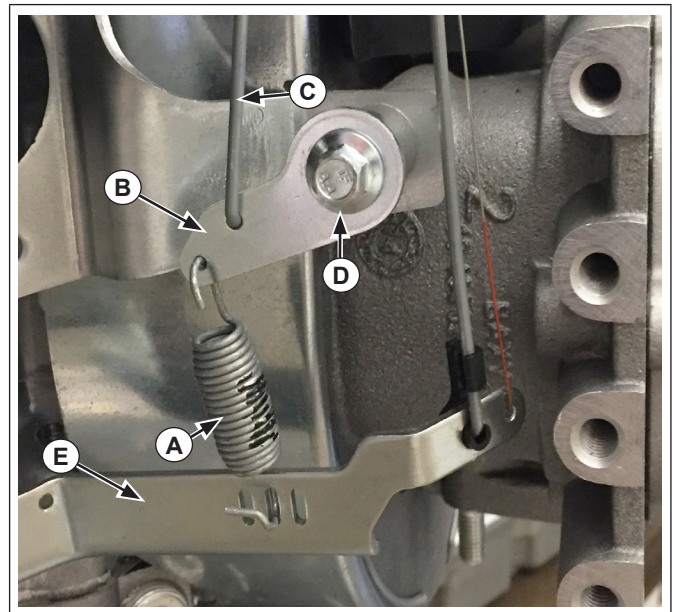
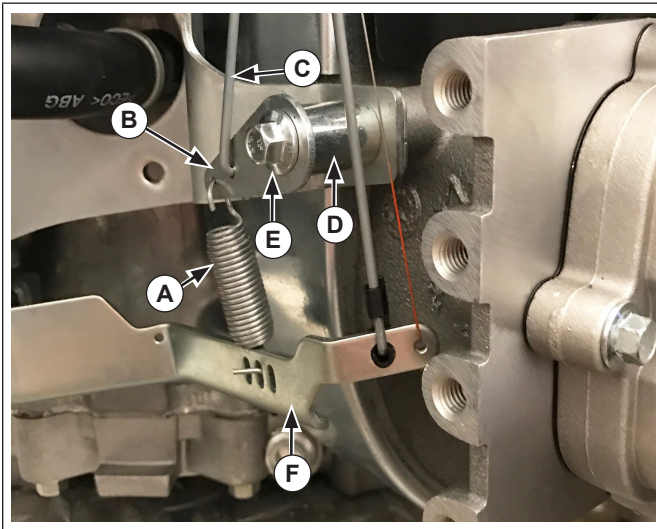

Figure 1. Original Governor Linkage Lever and Governor Spring.
Figure 2. New Governor Linkage Lever and Governor Spring.
Replacing the original (see Figure 1) black governor spring (19 089 08) with an orange governor spring 19 089 05-S and replacing the original governor linkage lever (19 090 01) with a new design (see Figure 2) governor linkage lever 19 090 05-S that moves the governor spring hole location, should correct this situation.
1. Remove the M6 screw (D) securing the governor linkage lever (B). Unhook the speed control linkage (C) and governor spring (A) from the governor linkage lever (B). Save the screw (D) and spacer behind the governor linkage lever (B); discard the governor linkage lever (B). Remove the governor spring (A) from the governor lever (E); discard the governor spring (A). See Figure 1.
- Hook the speed control linkage (C) and the new governor spring (A) into the new governor linkage lever (B). See Figure 2.
- Hook the new governor spring (A) into the middle slot of the governor lever (F). Orient spring ends as shown in Figure 2. Secure the new governor linkage lever (B) and the spacer (D) with the M6 screw (E). Torque screw (E) to 10.2 N·m (90 in. lb.). See Figure 2.